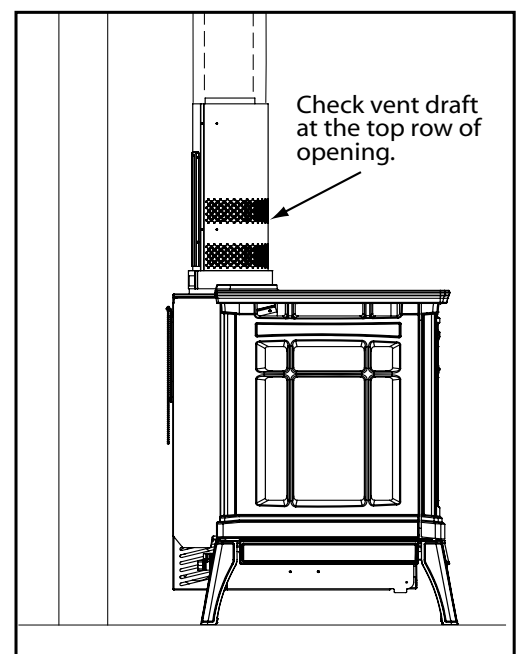

Figure 46: Draft test place.
4. After a minimum of 10 minutes operation, test the chimney draft with a smoke match at the top row of the pattern to confirm that there is adequate draft or 'pull' at the openings around the body of the Draffhood Adaptor, as shown in Figure 46.